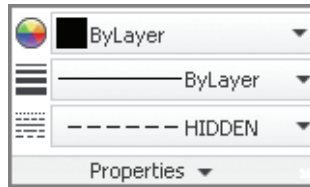

FIGURE 6.24 The Properties panel settings affect all the objects you create.
2. Open the Linetype drop-down menu on the Properties panel, and select Hidden (see Figure 6.24). Draw a line of arbitrary length anywhere on the canvas.